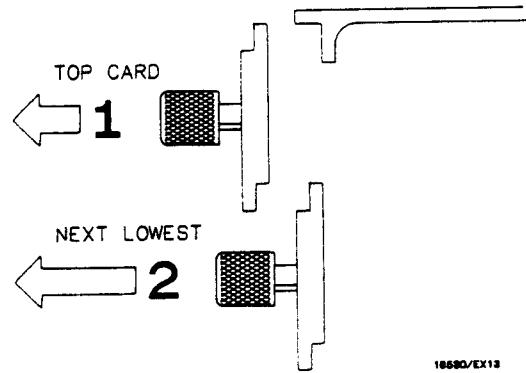

Figure A-4. Endplate Overlap
3. Starting **from the top**, begin pulling the card(s) and filler panel(s) out **half way**. See figure A-4.